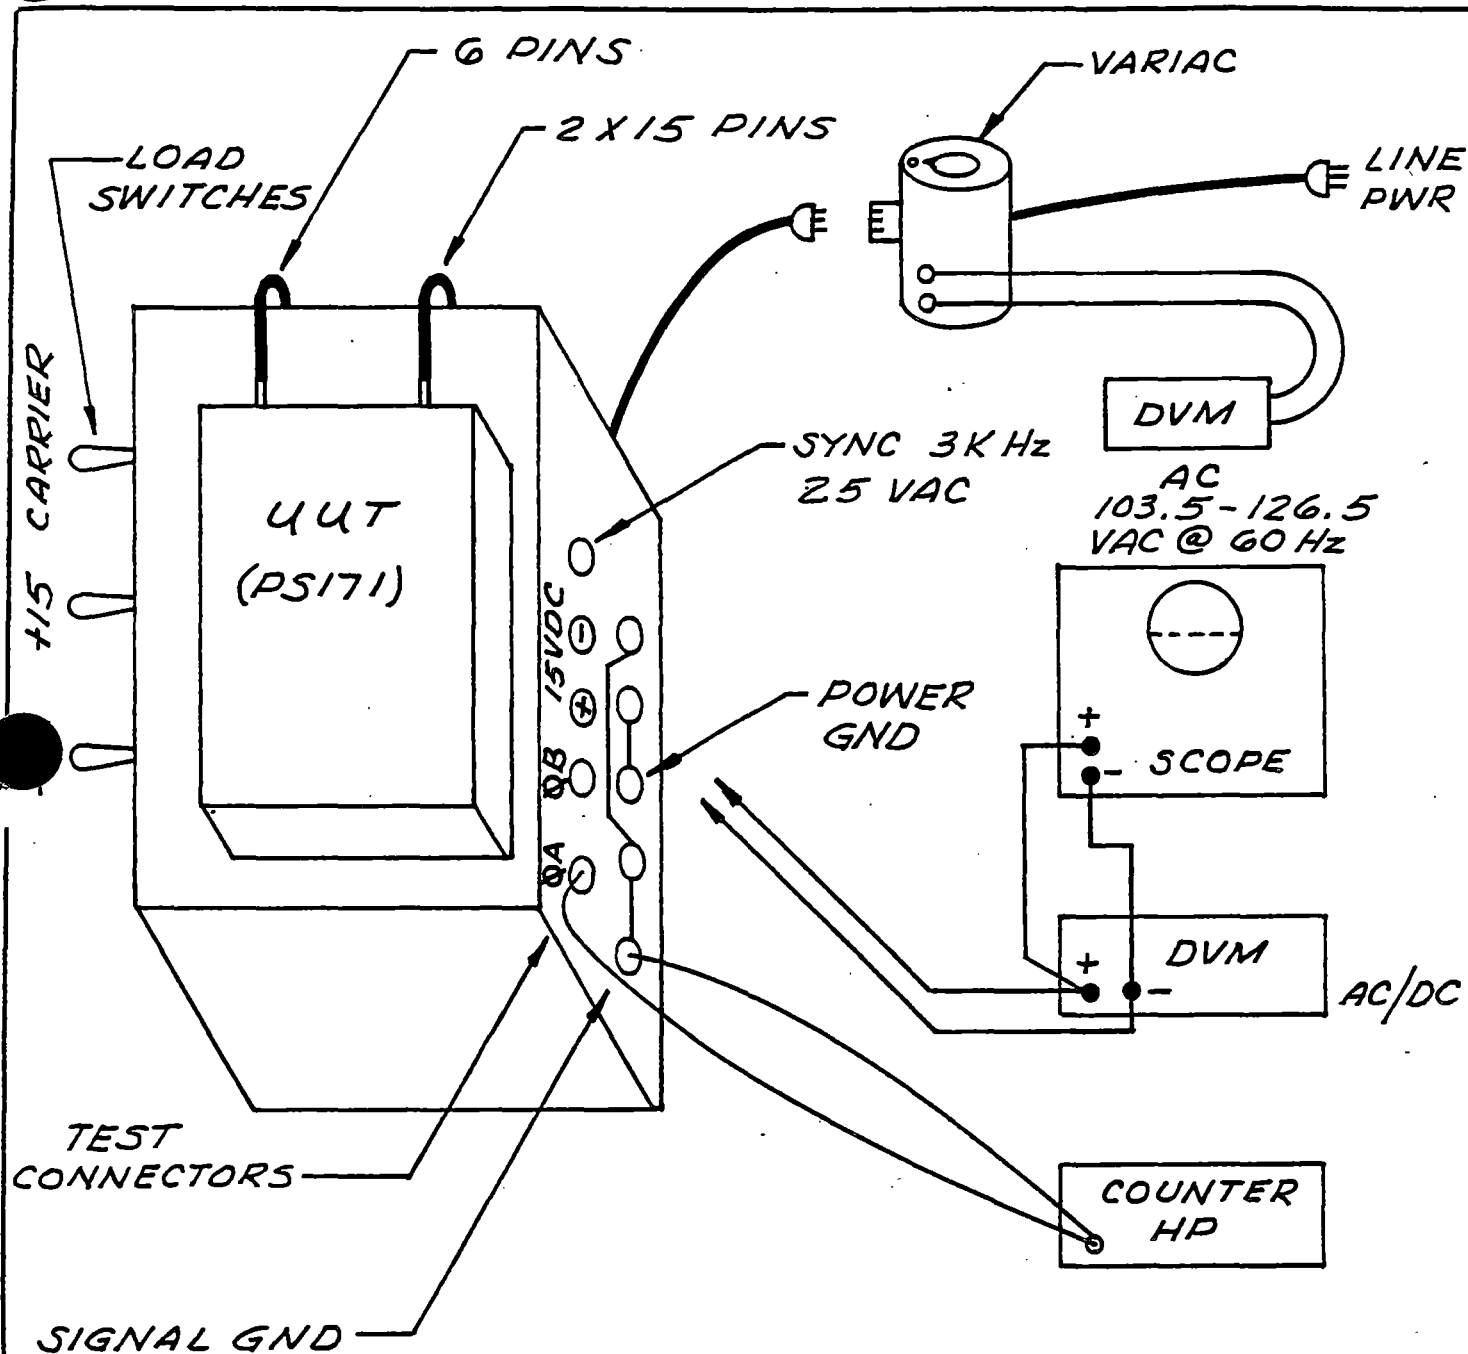

FIGURE 1
- 4.1 Connect the digital multimeters (DMM) PS171-Q2, variac, frequency counter and oscilloscope as shown in figure 1.